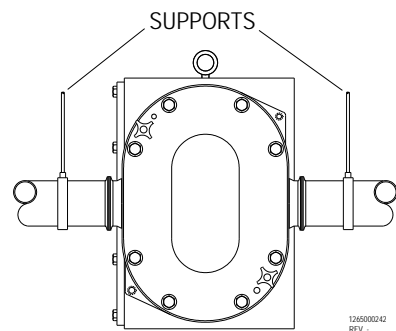

FIGURE 1
- Support all piping independently to minimize the forces exerted on the pump (figure 1).